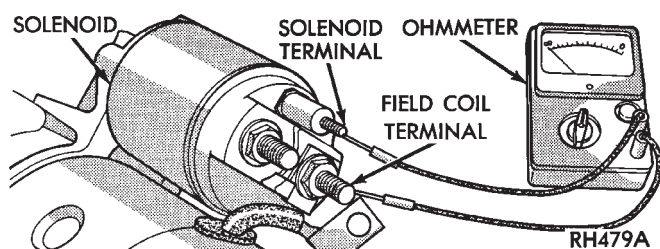

Fig. 7 Continuity Test Between Solenoid Terminal and Field Coil Terminal
(1) Remove the wire from the solenoid field coil terminal.
(2) Check for continuity between the solenoid terminal and field coil terminal with a continuity tester (Fig. 7). There should be continuity. If OK, go to Step 3. If not OK, replace the faulty starter assembly.